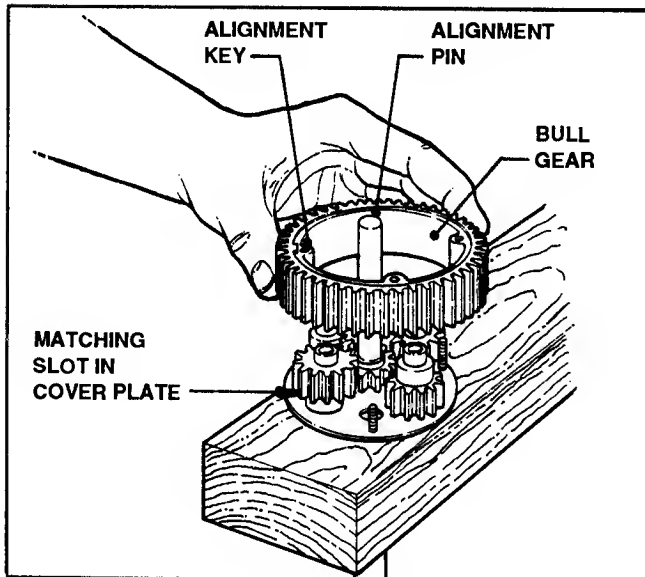

FIGURE 5.11
10. Align raised portion of Bull Gear over matching slot in Cover Plate on the board. See Figure 5.11.